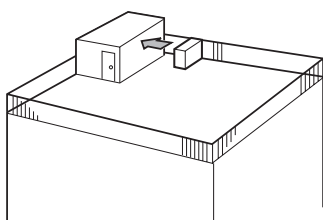

Fig. 3-3
- ① Face the air outlet towards the nearest available wall about 50 cm away from the wall. (Fig. 3-3)